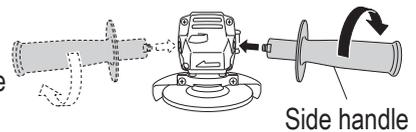

Fig. 10
1. Hold the grinder firmly by its housing and side handle (**Fig. 10**).